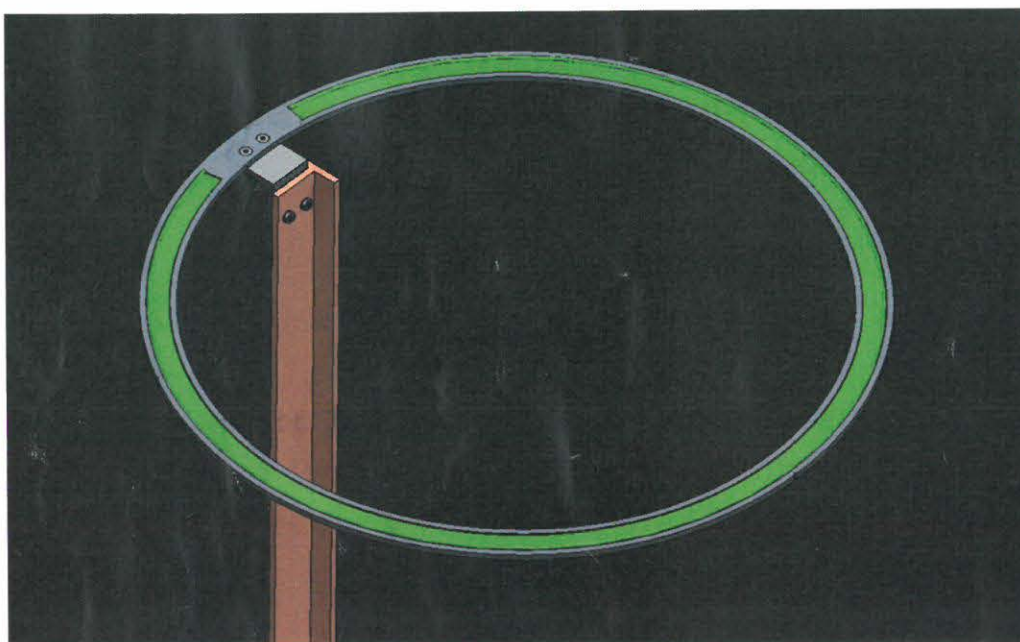

Figure 1-1 Upper mesh gasket layout
- a. Cut and lay metal mesh gasket in groove with round edge out. See Fig 1-1.